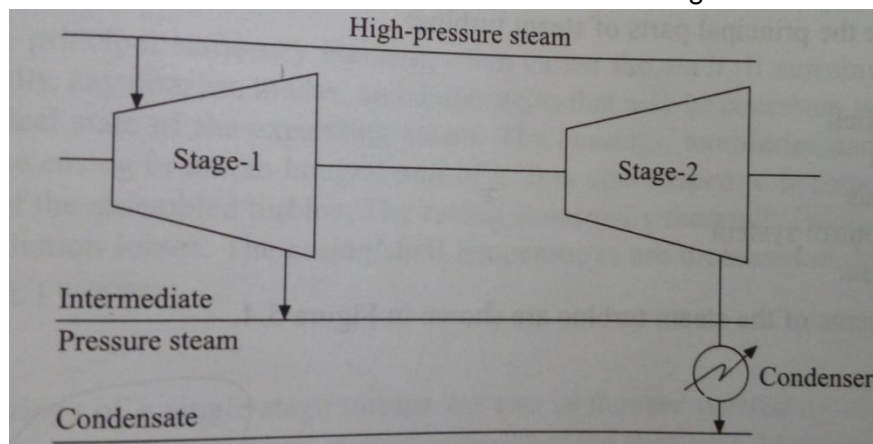

Figure 7 Extraction Turbine
- One such extraction turbine which is also condensing is shown in figure 7